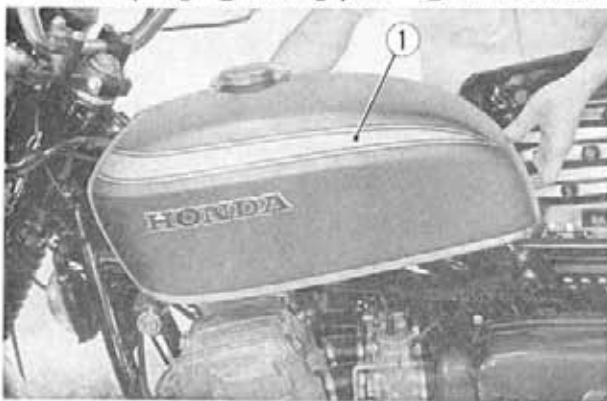

Fig. 6-24 Fuel tank
2. Fit the front and rear rubber cushions to the frame body. The front rubber cushions should be inserted by pushing the fuel tank from the rear. (Fig. 6-24)